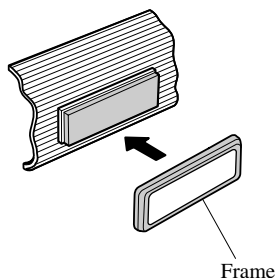

Fig. 17
3. After installing the unit into the dashboard, attach the frame. (Fig. 17)